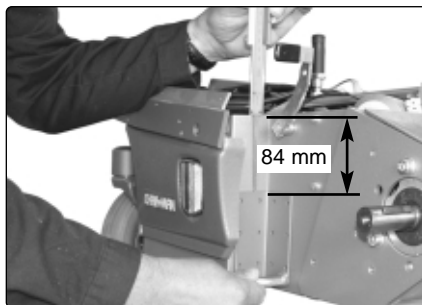

Fig. 3. Measure based on the mark and position the hook bracket at the right height
5. Measure based on the mark and position the hook bracket at the right height, see Fig. 3.